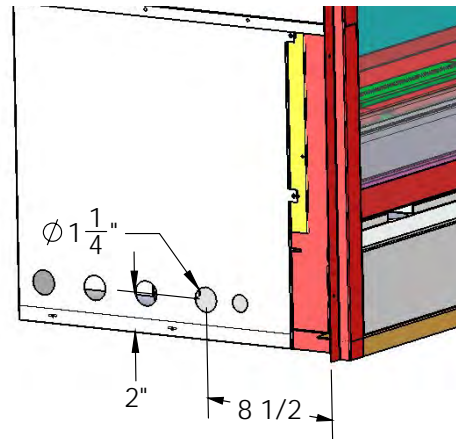

Figure 21. Gas line access.
- See Figure 21 for location of gas line access.
When covering the upper metal portion of the fireplace, up to 4" (as shown, Fig.21) with a non-combustible material Please Note: The decorative facing materials may be subject to temperatures in excess of 250° F. This should be considered when selecting facing materials.